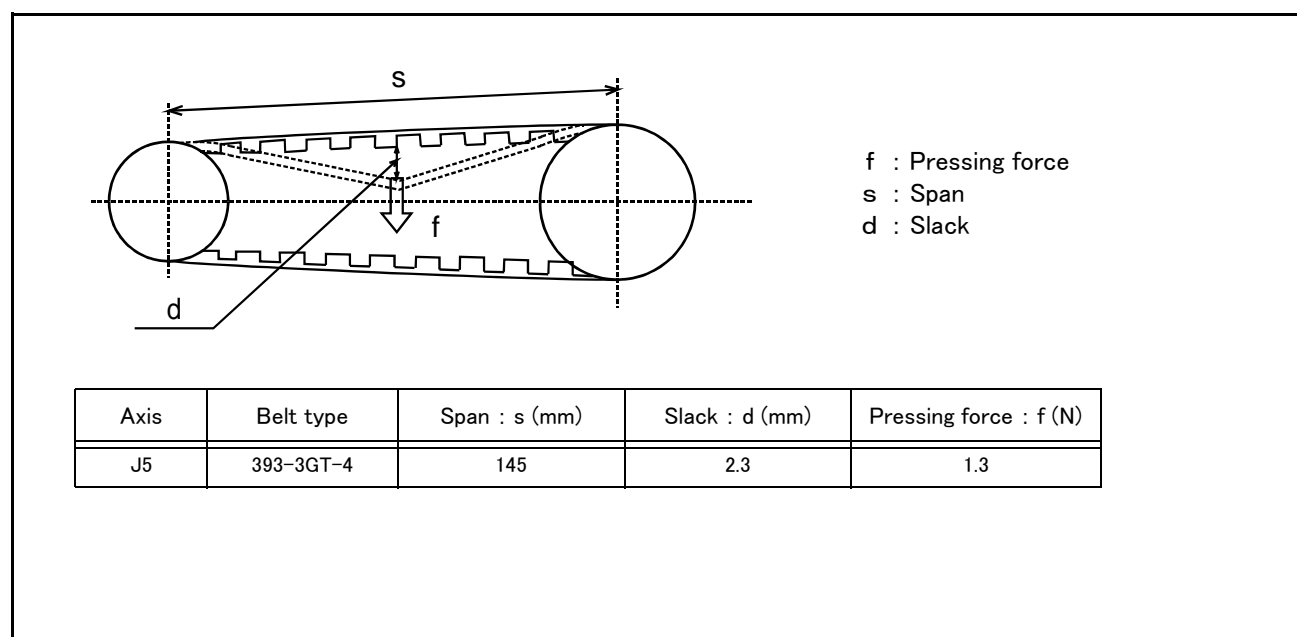

Fig.5-5 : Belt tension
- 4) Confirm that the belt tension is adjusted to slacken approx. 2.3mm when the center of the belt is lightly pressed with a finger (approx. 1.3N) as shown in "Fig.5-5 : Belt tension".
The timing belt can satisfactorily convey the drive and keep a durable force only when it has an adequate tension. The belt tension should not be too tight or too loose. Instead, it should be adjusted to a degree that elasticity is felt when the belt is pressed with the thumb. If the belt tension is too weak, the belt loosening side will vibrate. On the other hand, if the belt tension is too strong, a sharp sound will be heard and the belt tension side will vibrate. The detailed adjustment (tension) is shown in Fig. 5-5.